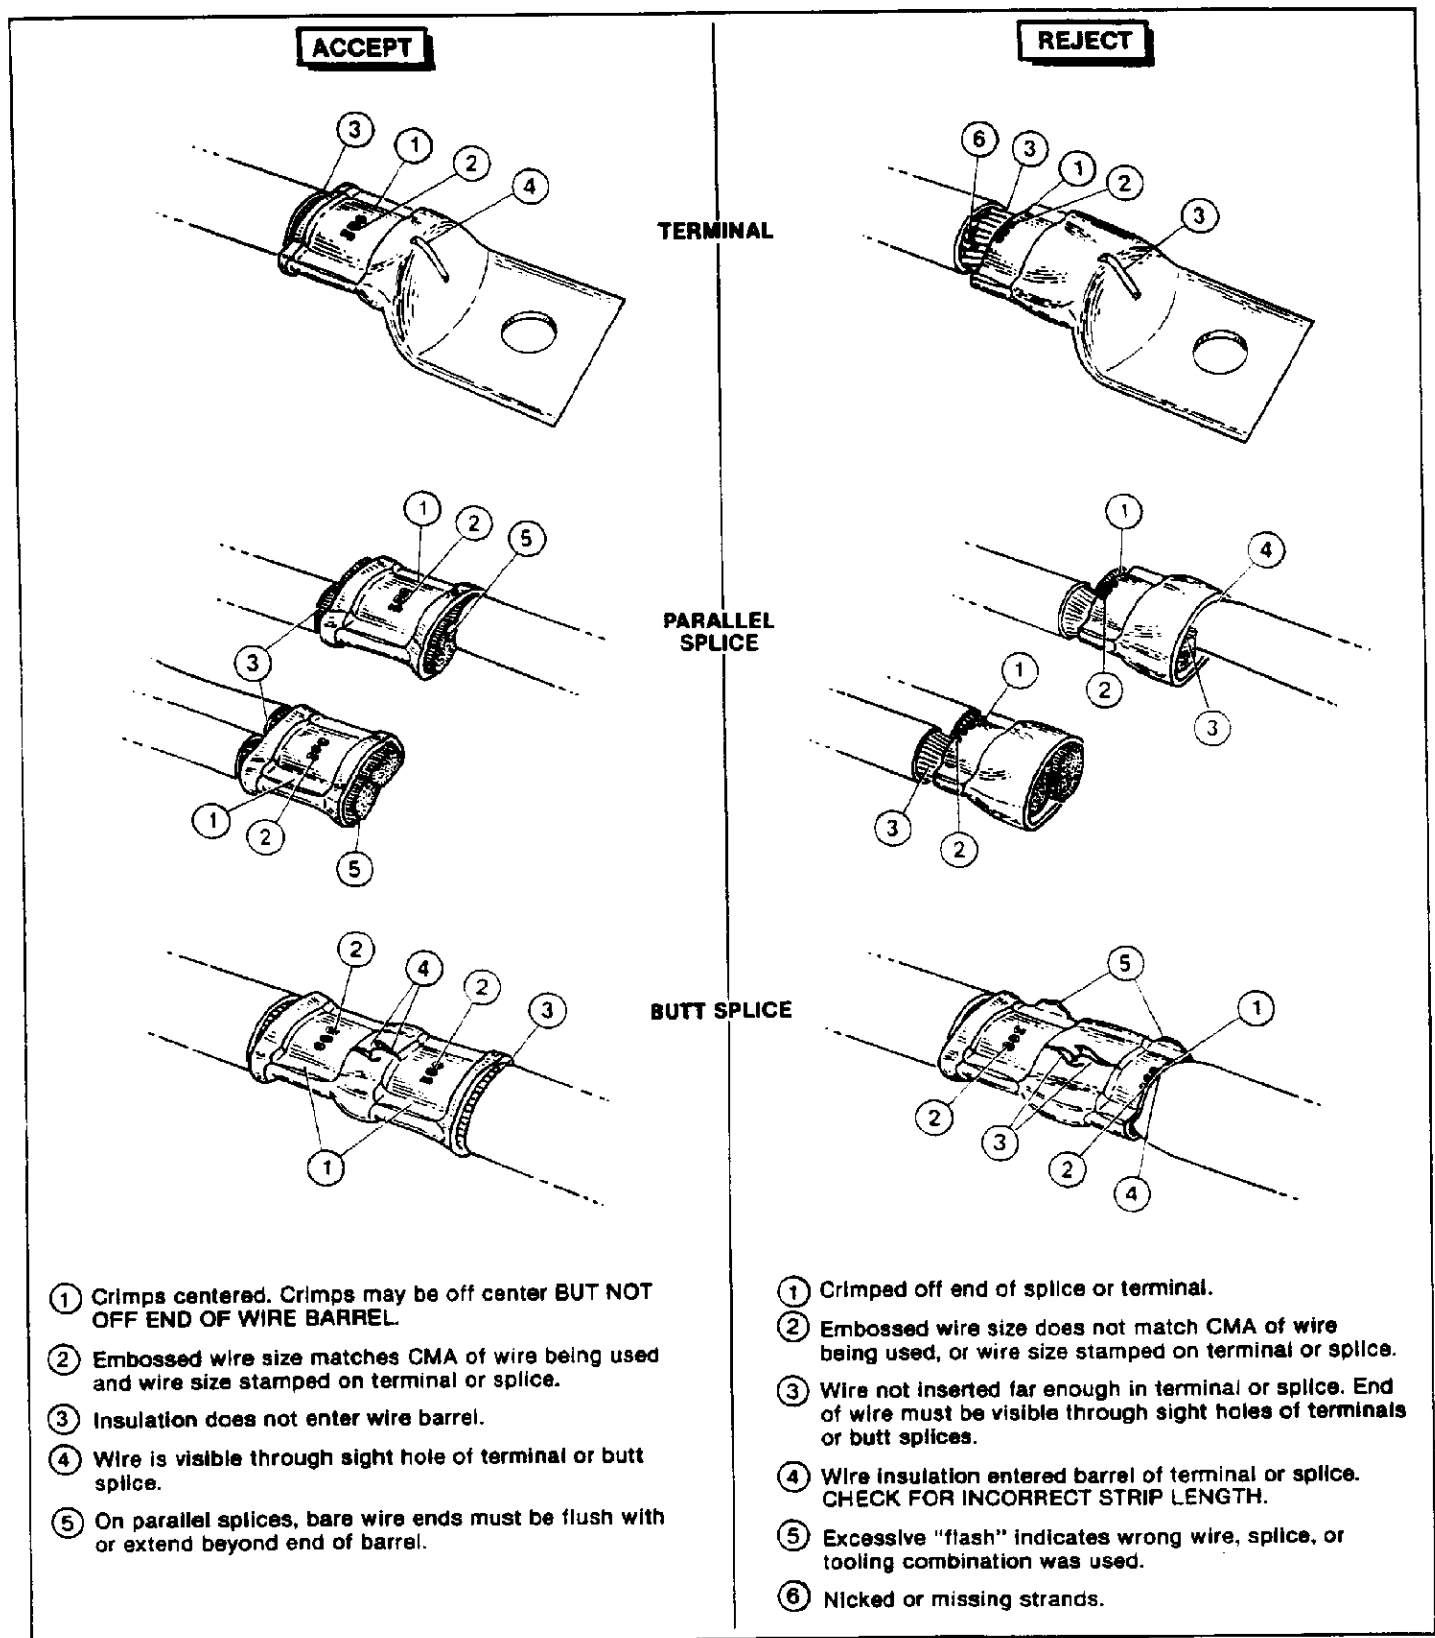

Fig. I-5
8. Inspect crimp by referring to Paragraph I-5, CRIMP INSPECTION, and to Figure I-5.
Inspect crimped terminals and splices by checking the features described in Figure I-5. Use only terminals and splices that meet the conditions shown in the "ACCEPT" column. Unacceptable terminals and splices, as depicted in the "REJECT" column of Figure I-5 can be avoided through careful use of the instructions in Paragraph I-4 and by performing regularly scheduled die maintenance as described in Section II of this instruction sheet.